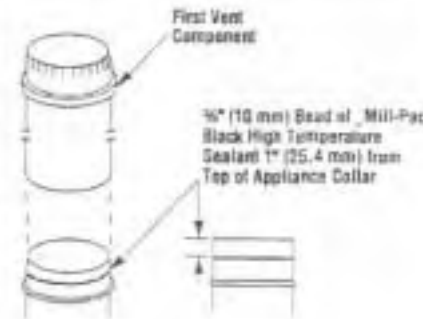

Figure 18
**WARNING: A 3/8" (10 MM) BEAD OF \_MILL-PAC BLACK (700°F) HIGH TEMPERATURE SEALANT MUST BE APPLIED TO THE INNER APPLIANCE COLLAR BEFORE THE FIRST VENT COMPONENT IS ATTACHED (FIGURE 18) AND TO ALL SUBSEQUENT INNER VENT CONNECTIONS. FAILURE TO SEAL ALL THE INNER JOINTS WITH THIS HIGH TEMPERATURE SEALANT MAY CAUSE THE APPLIANCE TO OPERATE IMPROPERLY.**
B. The vent sections are crimped at one end to provide a slip fit for elbows and additional vent sections. To begin a vent run, apply \_Mill-Pac Black (700°F) high temperature sealant to the inner joint, being sure of a 100% seal (Figure 18). Slide the 5" (127 mm) inner section onto the center appliance collar. (Crimped end always upward). Locate and transfer drill a 1/4" (3 mm) diameter hole through the collar at the two (2) punched holes (180° apart). Use two (2) No. 8 x 1/2" sheet metal screws to secure the section.
**WARNING: A 3/8" (10 MM) BEAD OF MILL-PAC BLACK (700°F) HIGH TEMPERATURE SEALANT MUST BE APPLIED TO THE INNER APPLIANCE COLLAR BEFORE THE FIRST VENT COMPONENT IS ATTACHED (FIGURE 18) AND TO ALL SUBSEQUENT INNER VENT CONNECTIONS. FAILURE TO SEAL ALL THE INNER JOINTS WITH THIS HIGH TEMPERATURE SEALANT MAY CAUSE THE APPLIANCE TO OPERATE IMPROPERLY.**